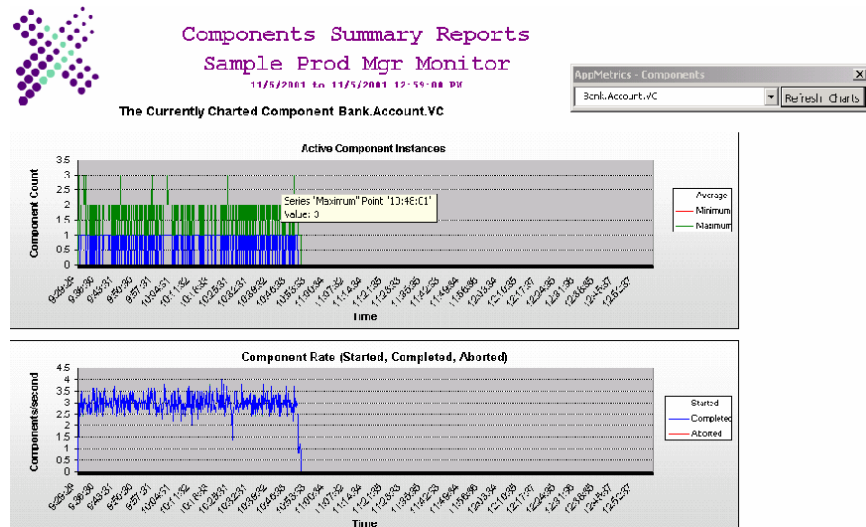

Figure 12
13. The last report to view in our Production Monitor is the **Components Report** (see Figure 12).